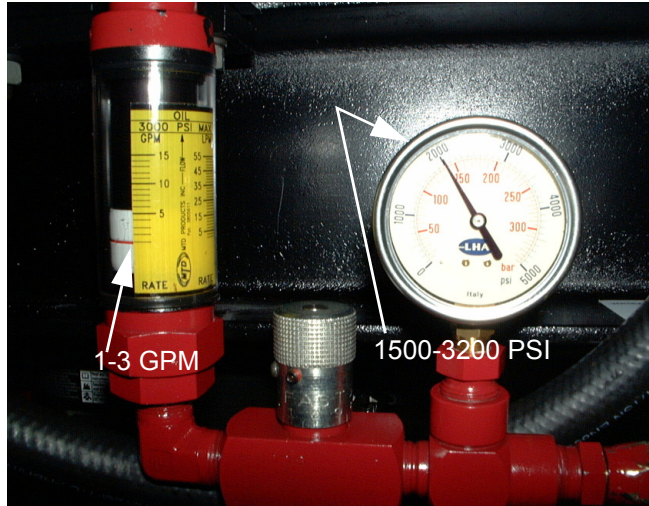

Figure 1
1. Continue to close the needle valve slowly until the flow gauge reads approximately 1 GPM.____ See Figure 1.